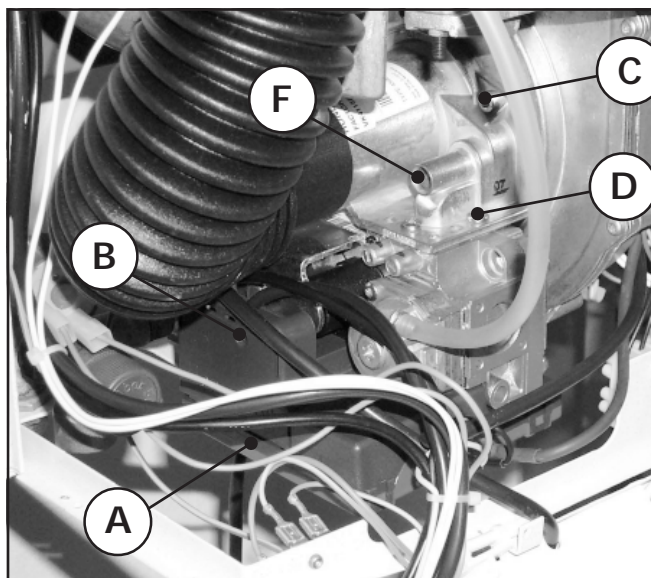

Fig. 19
If the appliance has to be used with a gas other than the one it has been set for, it is necessary to insert (or remove) the restrictor between the gas valve and the air inlet Venturi, and operate on the regulation screw F (fig. 19) placed on the Venturi unit to regulate the CO2 content in the flue gas to the nominal value (within +/- 0.1%) described in the following table:
- 15 If necessary, slowly operate on the regulation screw F (fig.19) placed on the Venturi to bring the CO2 content to the nominal value (within +/- 0.1%) expected in the table for the correspondent gas type. It is recommended to operate only on the screw F and not on the gas valve: this operation could compromise the correct functioning of the appliance